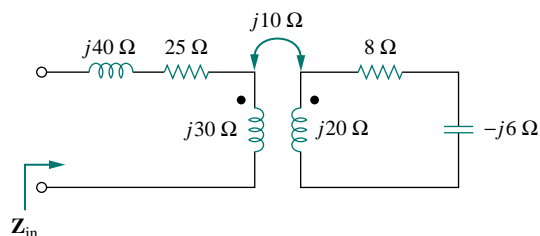

Figure 13.91 For Prob. 13.22.
- 13.22** (a) Find the input impedance of the circuit in Fig. 13.91 using the concept of reflected impedance.